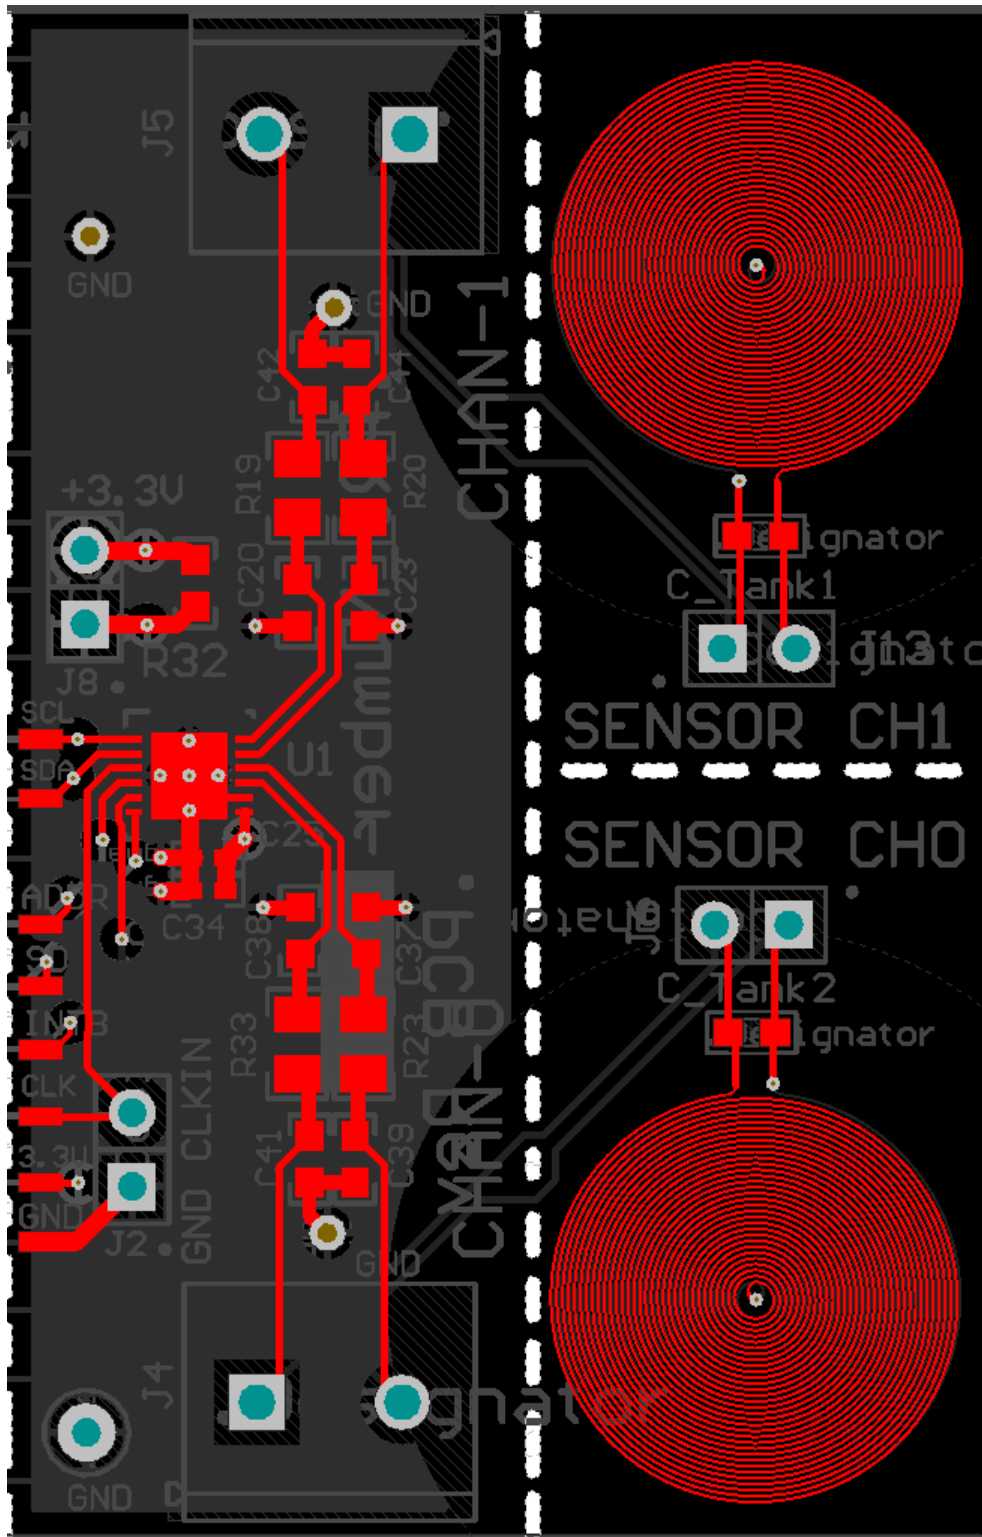
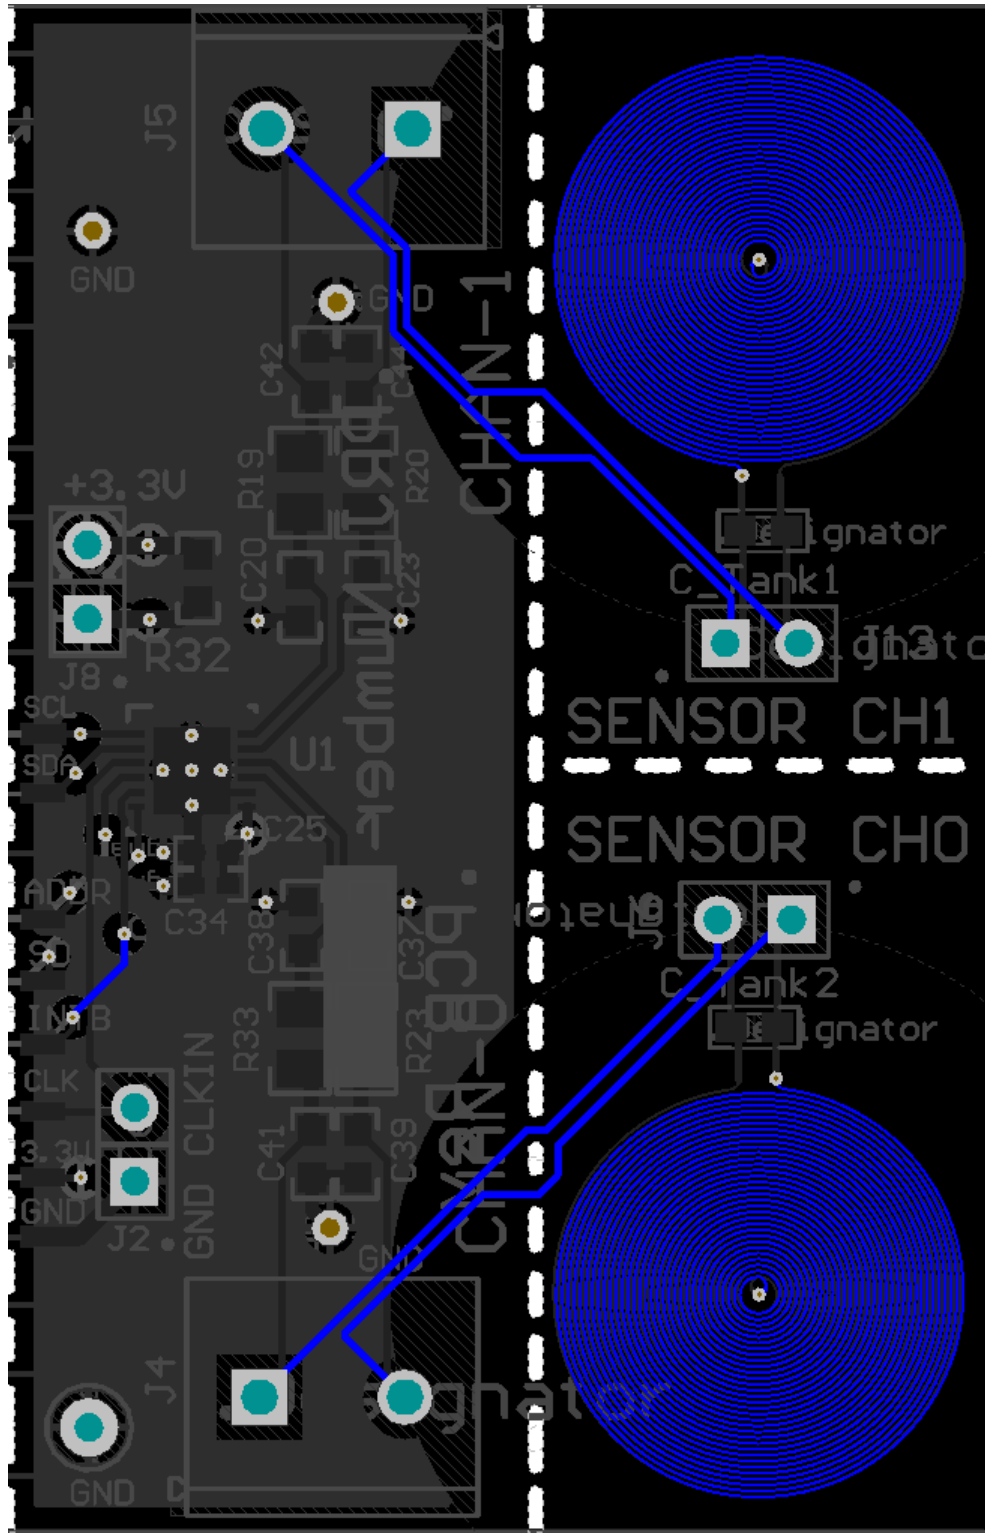

Figure 68. Example PCB Layout: Top Layer (Signal)
Figure 71. Example PCB Layout: Bottom Layer (Signal)
- The optimum placement is closest to the VDD and GND terminals of the device. Care should be taken to minimize the loop area formed by the bypass capacitor connection, the VDD terminal, and the GND terminal of the IC. See Figure 68 and Figure 68 for a layout example.
Figure 68 to Figure 71 show the LDC1612 evaluation module (EVM) layout.